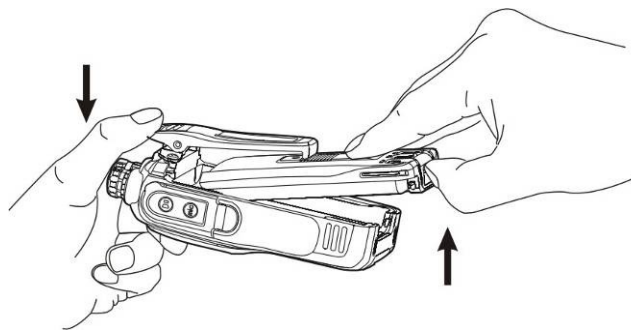

Figure 2
- Release the battery latch and remove the battery when the bottom of the battery tilts. See figure 2.